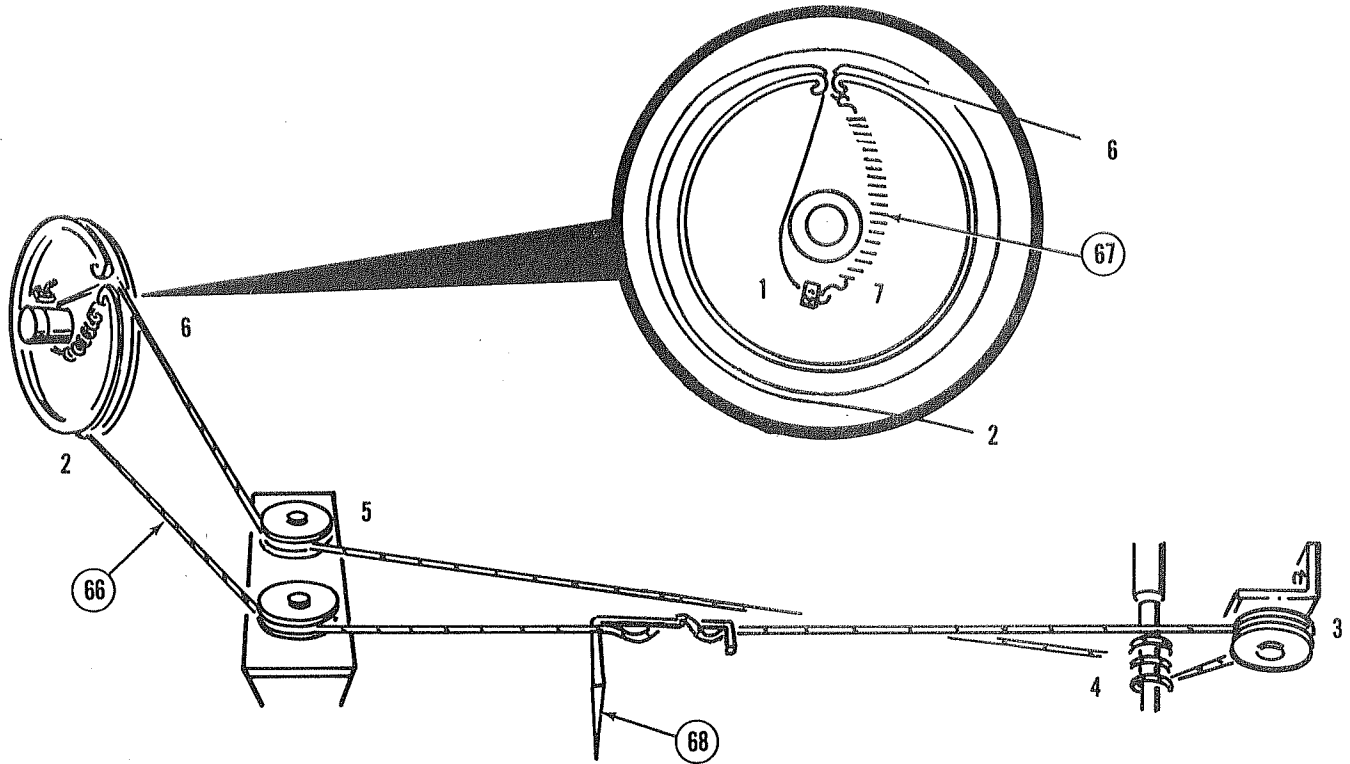

FIGURE 3
3. String dial cord as illustrated above in Figure 3. Start at (1) and loop cord  $1\frac{1}{2}$  turns counter-clockwise around dial drum. Follow sequence with three turns around tuning shaft (4). Connect spring to tab on dial drum (7). Cut off excess dial cord.
4. Install dial pointer (68) as illustrated and reference to left end of dial scale at 88 MHz.